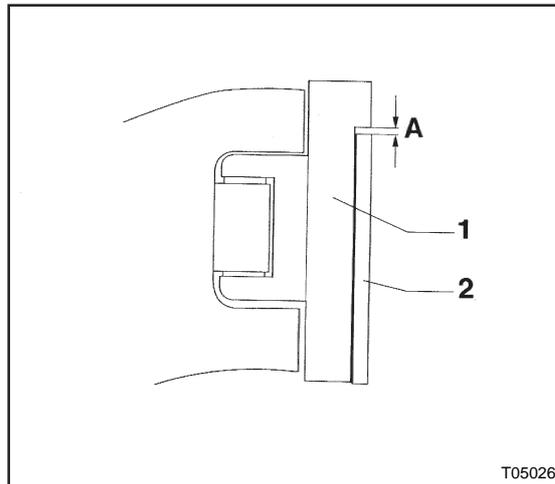

Figure 1: Mirror support arm (1) and base plate (2). Dimension "A" should equal 1/4 inch.
1. Refer to items 1,2 and 3 of "To remove mirror assembly".
3. Place the mirror assembly (1, Figure 1) onto the base plate (2, Figure 1) and tap lightly home until dimension "A" is 1/4 inch. Full electric contact is only guaranteed at this dimension. If the clearance is different, check joints for burrs or damage.